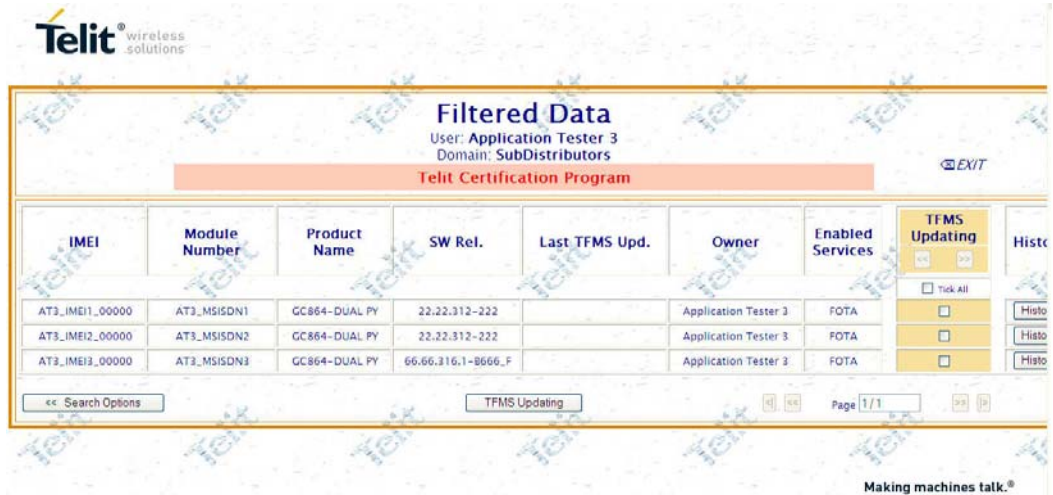

Fig.11 Modules available for PFM certification.
This page displays in a table-like format all the information about the subset of customer modules identified by the filtering selections the customer itself did in the “Search Options” page. See fig. 11 and 12.
1. It shows to the customer all the information about all of its modules, as it is known to the PFM Server. This information is presented in a table-like format as it appears in fig.11. Each row refers to a specific module/IMEI; blank cells appear in the row when the PFM Server doesn't know an information for a specific module (e.g. the Product Name);